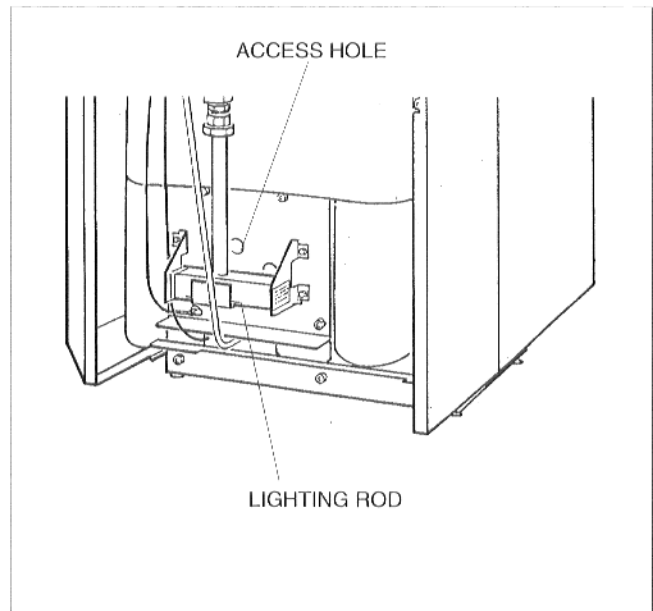

Fig.8
36. Wait five (5) minutes to clear out any gas. Then smell for gas, including near the floor. If you smell gas, **STOP!** Follow "B" in the safety information printed on page 5. If you do not smell gas, go to the next step.
37. Locate the pilot assembly by looking through the access hole in the burner assembly plate, fig.8.
39. Push in red reset button all the way and hold in. Immediately light the pilot using the lighting rod provided, fig. 8 and a match. Continue to hold the red reset button in for about one (1) minute after the pilot is lit. Release the button and it should pop back up. Pilot should remain lit. If the pilot goes out, turn gas control knob clockwise  to "**OFF**", and repeat steps 36 through 39.